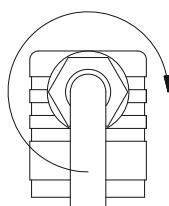
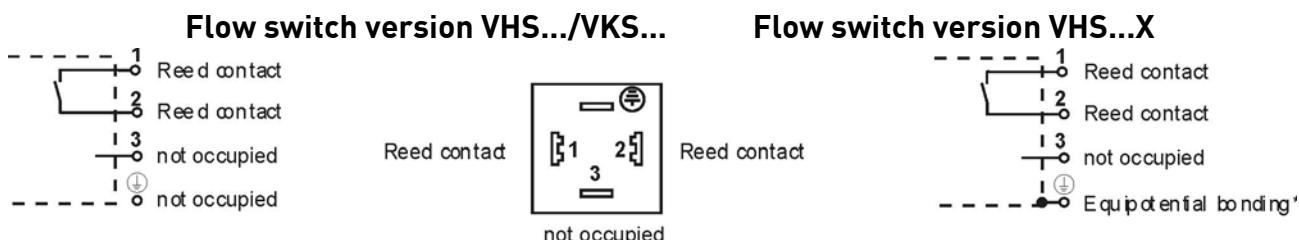

Fig. 11
Fig. 13 * To prevent electrostatic charging the VHS...X devices have to be connected to the equipotential bonding via the plug connector.
- ↳ Connect the wires as displayed in the connection diagram (→ Fig. 13).
- ↳ Press the core ⑧ into the cable socket ② until it locks into place.
- ↳ Put the central screw ⑥ in the cable socket ② and tighten the screwed cable gland ⑤ M16x1,5 (→ Fig. 11).